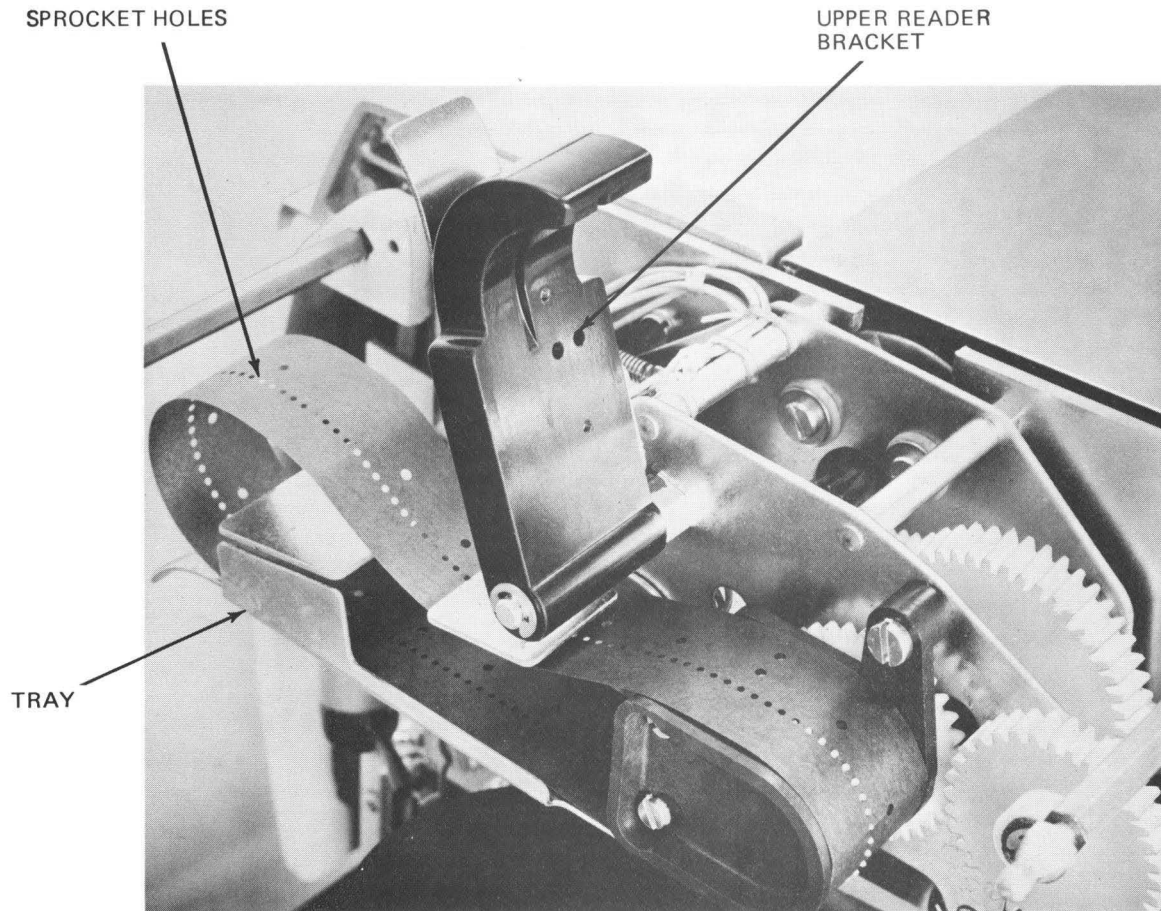

FIGURE 100. VERTICAL FORMAT UNIT
Vertical formatting for all printers is controlled by a paper tape in the Vertical Format Unit (VFU). This unit is located on the upper left side of the printer just under the left cover (Figure 100).
3. Raise the upper reader bracket (Figure 100).